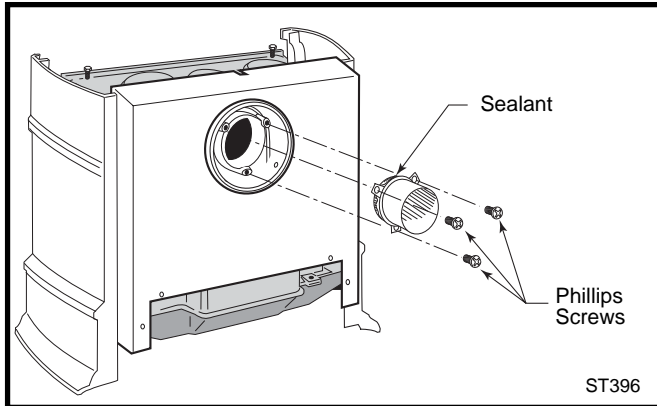

Fig. 23 Apply sealant to the starter pipe, and fasten to stove with Phillips screws.
- Run a bead of sealant beneath the pipe bead and attach to the stove using three 1/4-20 x 3/8" phillips screws provided in the parts bag. (Fig. 23)